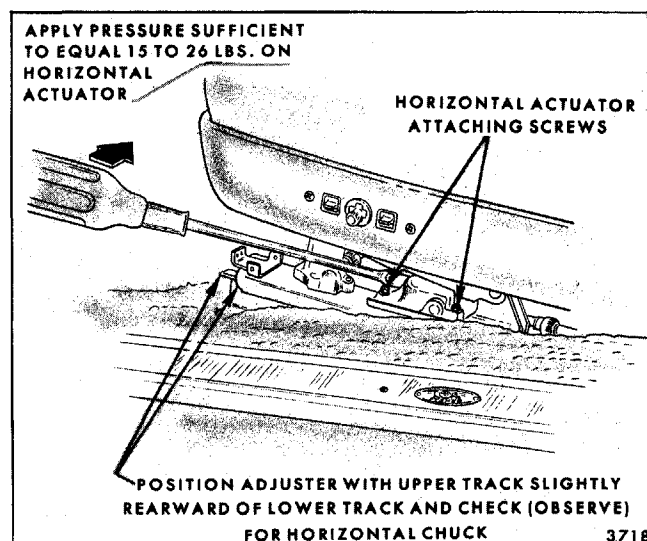

Fig. 9-8-Horizontal Actuator Adjustment - Power Six-Way Seat
2. Loosen horizontal actuator attaching screws. Using a large screwdriver, inserted as shown in Figure 9-8, apply outward pressure on horizontal actuator (sufficient to equal 15 to 25 pounds on horizontal actuator) and at the same time energize horizontal switch to move seat fore and aft slightly; this helps seat the horizontal actuator pinion gear teeth tight to the lower track rack gear teeth and eliminate any free play between gear teeth. While maintaining outward pressure against horizontal actuator, tighten actuator attaching screws.